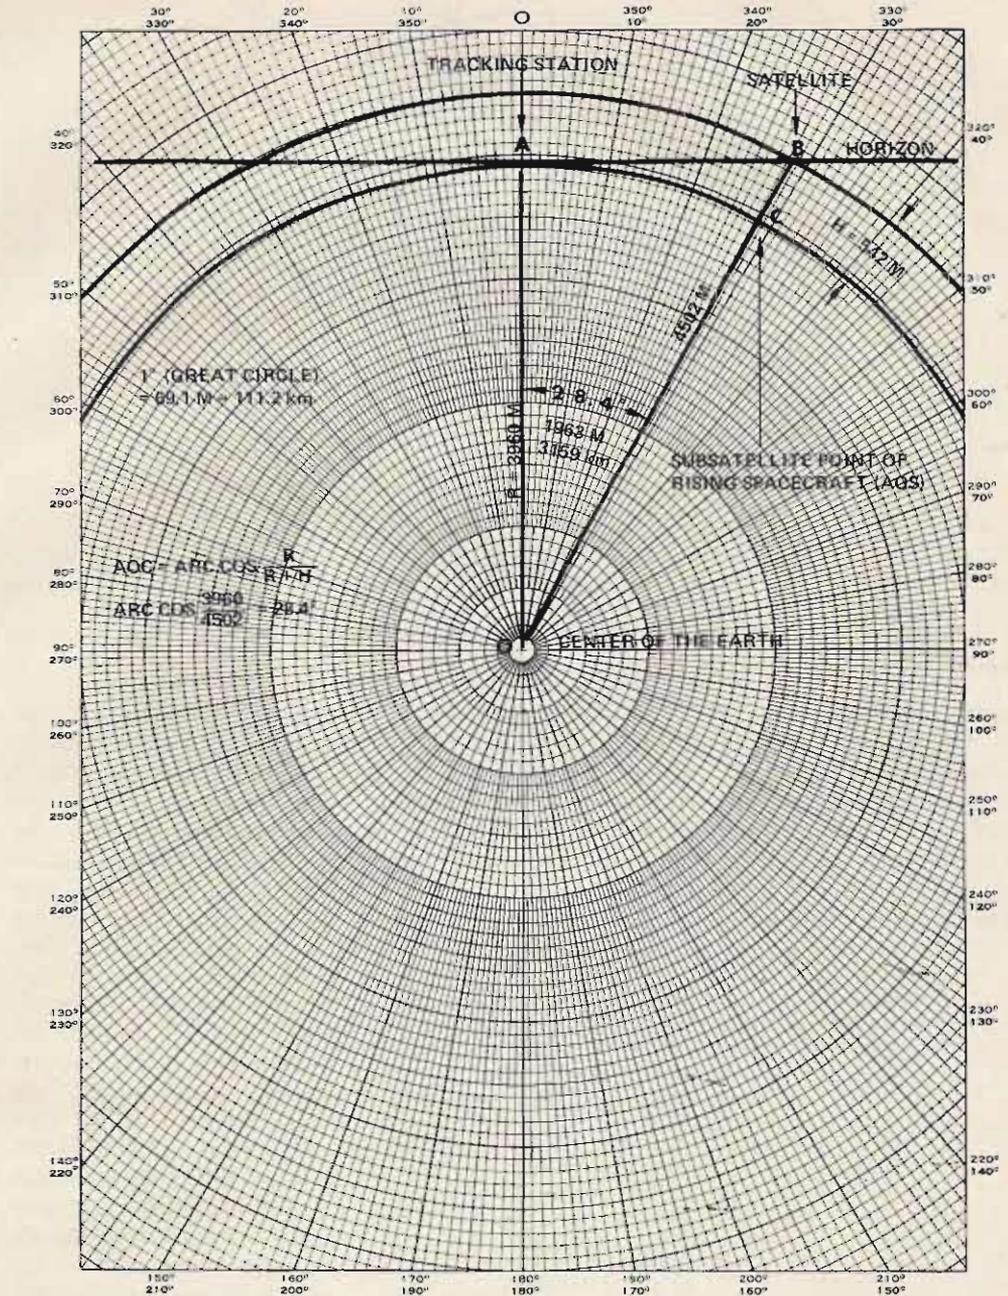

Fig. 8. Calculation of the distance from the tracking station at which the satellite enters the area of accessibility (acquisition of signal - AOS).
Fig. 8 depicts, diagrammatically, the Earth and the orbit of the satellite. Both are drawn to scale. The Earth radius is 3960 miles (6371 km), and the average altitude (H) of AO-D is 542 miles (872 km). Consequently, the radius of the orbit will be 4502 miles (7243 km).
Point A in Fig. 8 represents the QTH of the user and the horizontal line represents the horizon as viewed from point A. As long as the path of the satellite lies below the horizon, the bulk of the Earth will prevent radio waves from reaching the transponder and no communications will be possible.